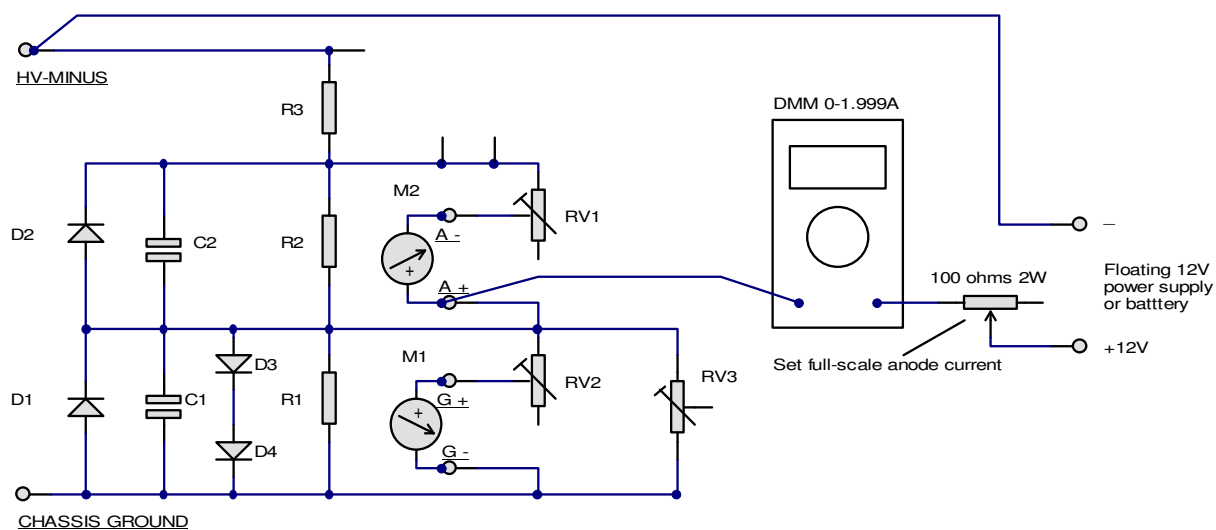

Figure 12: Calibration setup for anode current meter. Alternatively you can use a variable voltage/current power supply.
2. Connect a 100Ω 2W variable resistor to the positive terminal of your power supply, and in series with this connect an accurate current meter to the A+ terminal (see Figure 12 above). Connect the negative terminal of your power supply to the HV-MINUS terminal. This will allow you to pass a known current through the anode meter shunt R2 (and also the anode current trip resistor R3 – see Section 6.3.3 later).
1. Reconnect the temporary anode current setup as shown in Figure 12. Set RV5 fully counter-clockwise.